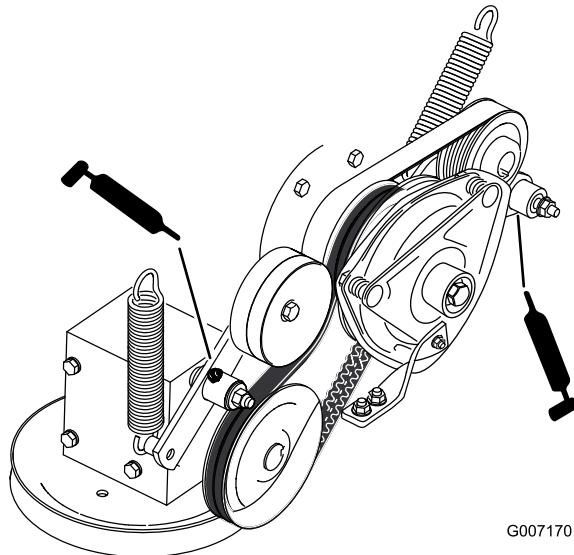

Figure 31
6. Grease the PTO drive belt idler arm (Figure 31).
7. Grease the pump belt idler arm (Figure 31).